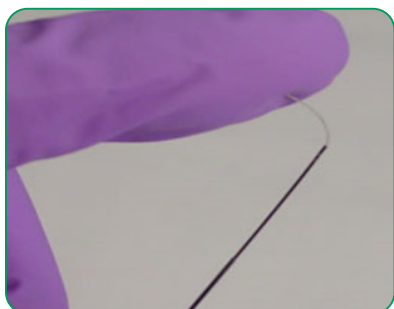

Figure 7. 90° Flexion of a Nitinol-core Fiber
- Greater fiber durability due to nitinol-core mechanical strength and flexibility (**Figure 7**)